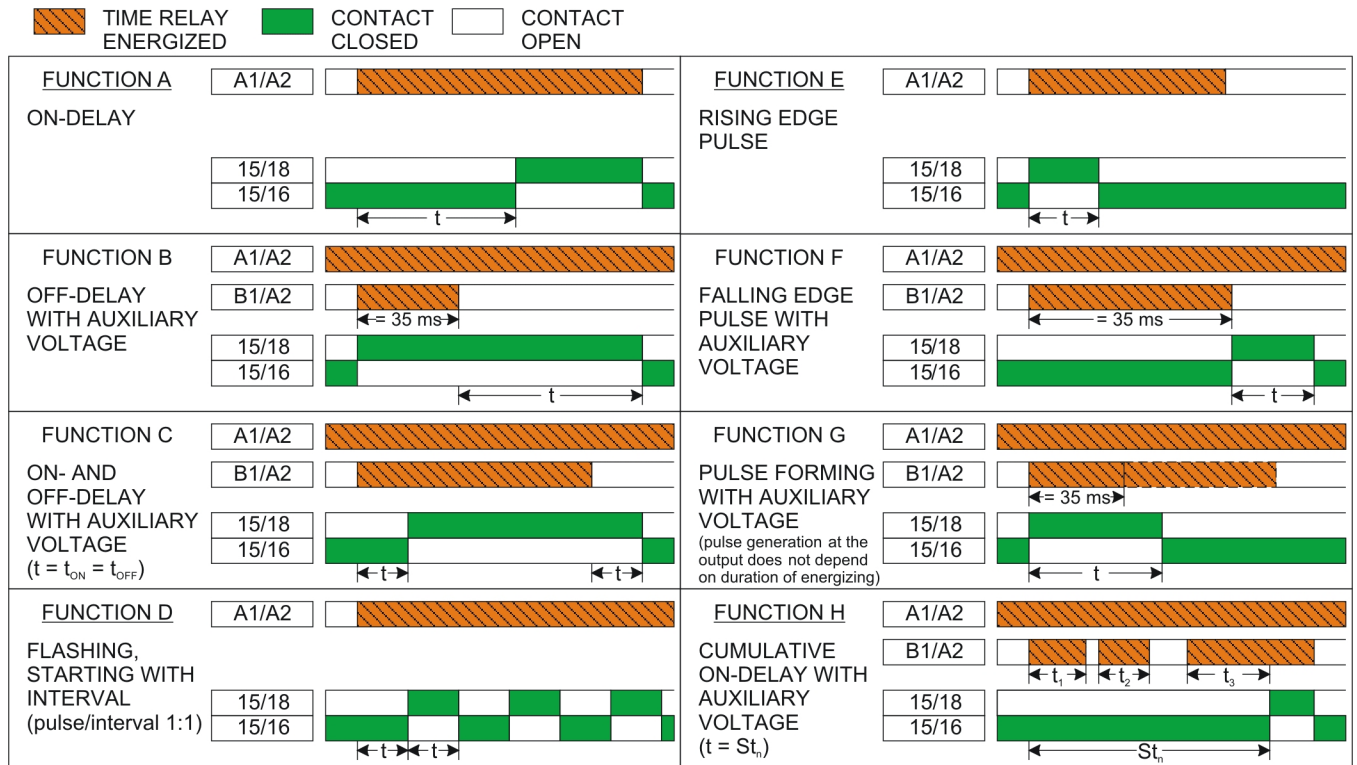

Figure 6-4. Time diagram.
10. Explain what happens (refer to the Figure 6-4 time diagram if necessary).
12. Explain what happens (refer to the Figure 6-4 time diagram if necessary).
14. Explain what happens (refer to the Figure 6-4 time diagram if necessary).
18. Explain what happens (refer to the Figure 6-4 time diagram if necessary).
20. Explain what happens (refer to the Figure 6-4 time diagram if necessary).
22. Explain what happens (refer to the Figure 6-4 time diagram if necessary).